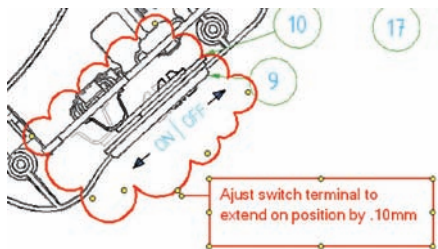

Figure 6.1 Markup displaying yellow grips when selected.
1. With the Select Objects tool  click on the markup you just made. The markup will display yellow grips for the corners. **(Figure 6.1)**